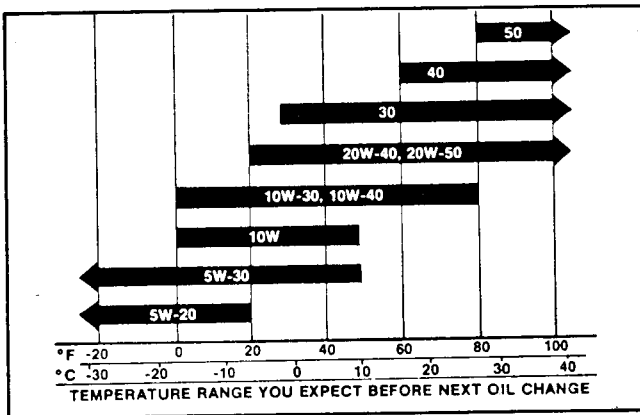

Figure 4
4. Pour the oil into the filler neck until the level is at the FULL (upper) mark on the dipstick. The Onan engine uses high-quality detergent motor oil having the American Petroleum Institute (API) classification SF. Oil viscosity (weight) must be selected according to anticipated ambient temperatures (Fig. 4).